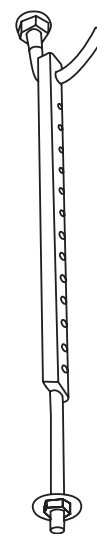

Fig. 4.4
4. Install the four suspension bolts (See Fig. 4.4).